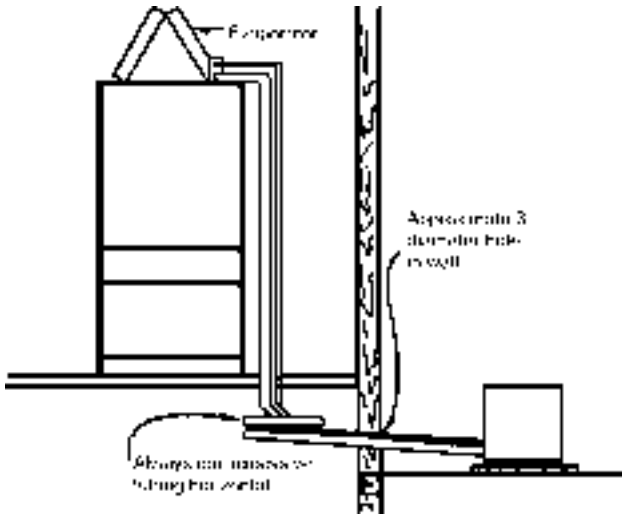

Figure 3 — Installing Refrigerant Tubing
Step 1. Being careful not to kink, route both the suction line and liquid line between the indoor unit and outdoor unit. Use a tubing bender to make any necessary bends in tubing. When necessary to bend the insulated tube suction line, cut the insulation around its circumference at a distance far enough beyond the point of the bend so as to clear the tubing bender. Slip the insulation back together and vapor seal the joint with tape. Coil any excess tubing in a horizontal place with the slope of the tubing toward the condensing unit. See Figure 3.